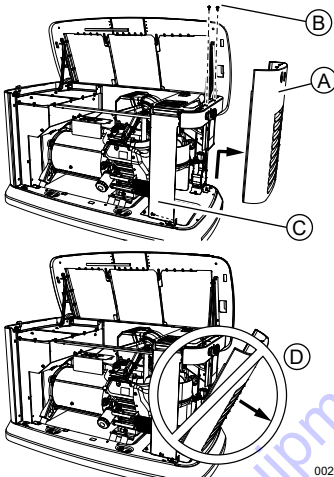

Figure 3-3. Intake Side Panel Removal
See Figure 3-3. Intake side panel (A) must be removed to access battery compartment, fuel regulator, and sediment trap.
2. Use a hex key to remove two mounting screws (B) and L-bracket screw (C).